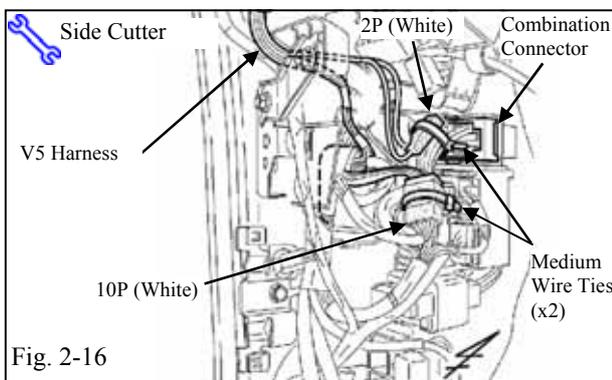

Fig. 2-16
- (t) Secure the white 10P connectors to the vehicle harness using one medium wire tie. (Fig. 2-16)
- (u) Bundle the excess V5 harness, then using one medium wire tie, secure the 2P connectors and V5 harness as shown. (Fig. 2-16)